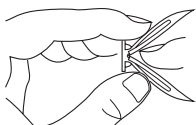

Figure 4 - Folding Anchor
2. Fold wall anchor (see Figure 4, page 7).